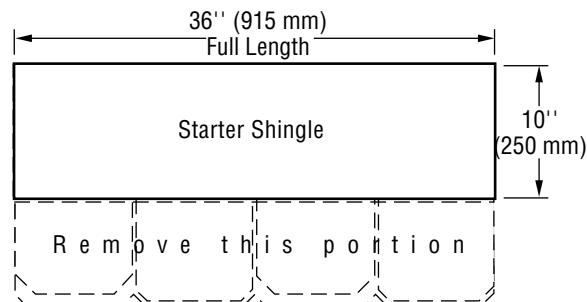

Figure 17-7: Make starter shingles by removing the 8" lower portion.
- ◆ When installing Carriage House, the starter course will consist of Carriage House shingles from which the 8" lower portion has been removed. The easiest way to do this is by cutting straight across the length of the shingle just above the top of the cutouts (Figure 17-7).